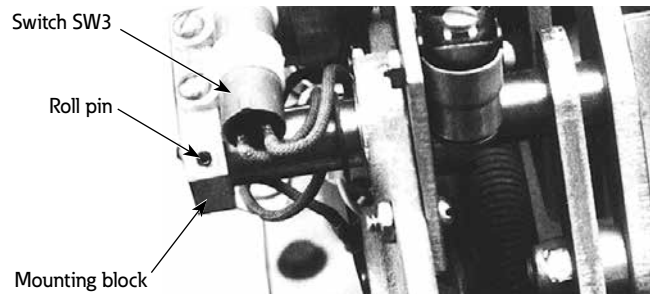

Figure 6. Removing switch SW3 from main shaft.
1. Use a punch to drive out the roll pin that is holding switch SW3 and mounting block to main shaft (Figure 6). Discard roll pin.